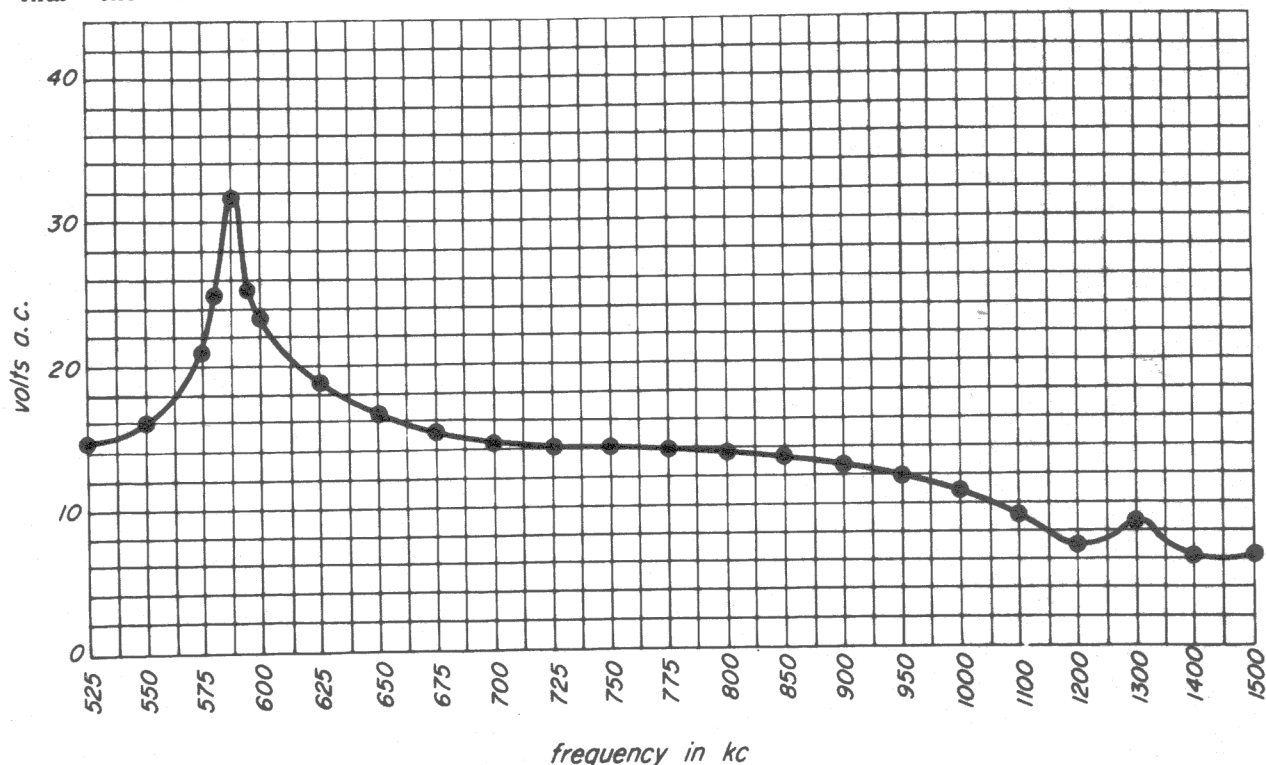

Fig. 32-7
Step 8. From here on, do not alter the setting of the radio volume control or the signal generator r-f output control. Set the signal generator to 550 kc then to 575 kc, 600 kc, and all the settings on the horizontal axis of the graph in Fig. 32-7. Each time you reset the generator, reset the tuning gang for maximum meter reading. Record the reading each time on the blank graph paper that is provided at the end of the lesson.
Step 9. The graph that we plotted in our laboratory is shown in Fig. 32-7. As you